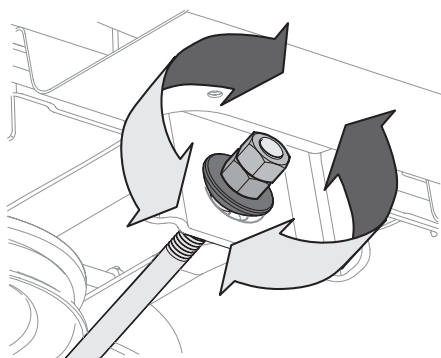

Figure 29
4. To **raise** the front of the deck, loosen the outer nut then tighten (thread inward) the inner nut against the front hanger bracket. See Figure 29. When proper adjustment is achieved, re-tighten the outer nut to 25-30 ft-lbs (34-41 N-m).
5. To **lower** the front of the deck, loosen the outer nut then loosen (thread outward) the inner nut, away from the front hanger bracket. See Figure 29. When proper adjustment is achieved, re-tighten the outer nut.